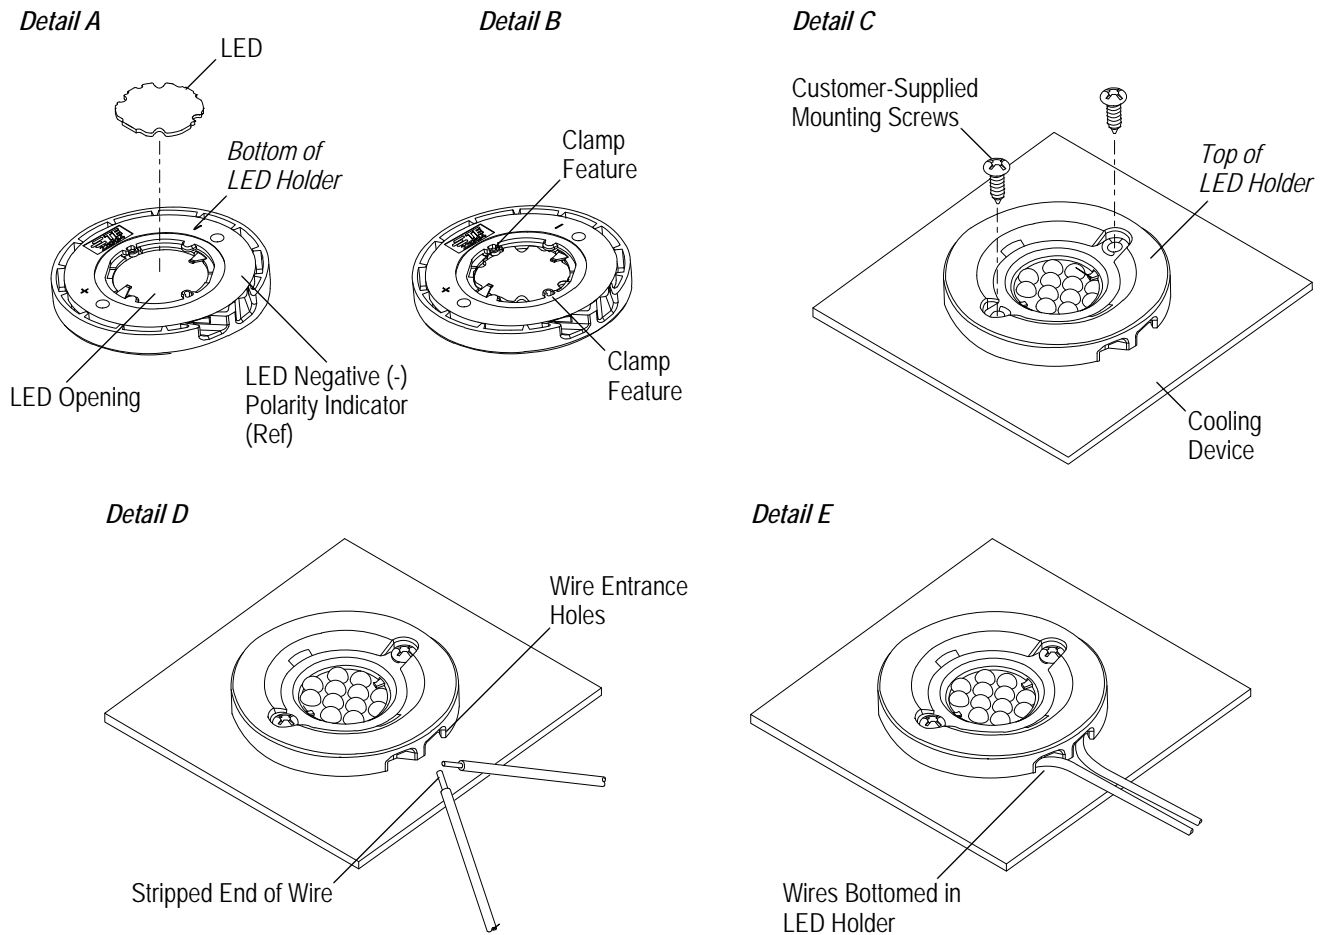

Figure 6
1. The LED must be positioned in the LED opening from the bottom side of the LED holder so that the edges of the LED are against the clamp features. The LED polarity indicators must be observed when orienting the LED into the LED opening. Then, the LED must be inserted until the clamp features hold it in place. See Figure 6, Details A and B.
2. The LED holder (bottom side) must be placed on the cooling device so that the screws holes align over the holes in the cooling device. The LED holder must be secured to the cooling device using two customer-supplied mounting screws. Each mounting screw should be tightened to a torque between 0.4 and 0.6 Nm [3.54 and 5.31 in.-lb]. See Figure 6, Detail C.
3. The stripped end of each wire must be inserted into a wire entrance hole of the LED holder until it bottoms in the LED holder. See Figure 6, Details D and E.